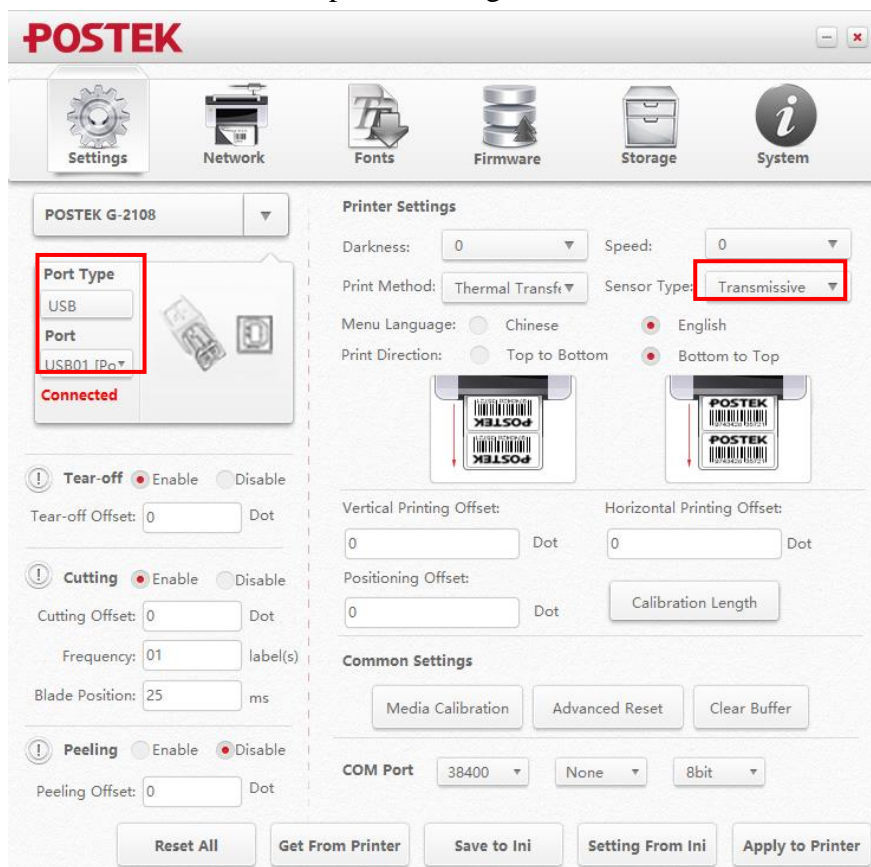

Figure 3-6 Utility Settings Interface
- Click to open Utility 3.0, the interface of the tool will be shown in Figure 3-6; then check if the connection is correct.
- If the connection is correct, please find the “Sensor Type” under the printer settings area, and then select “Reflective” from the drop-list, see Figure 3-6.